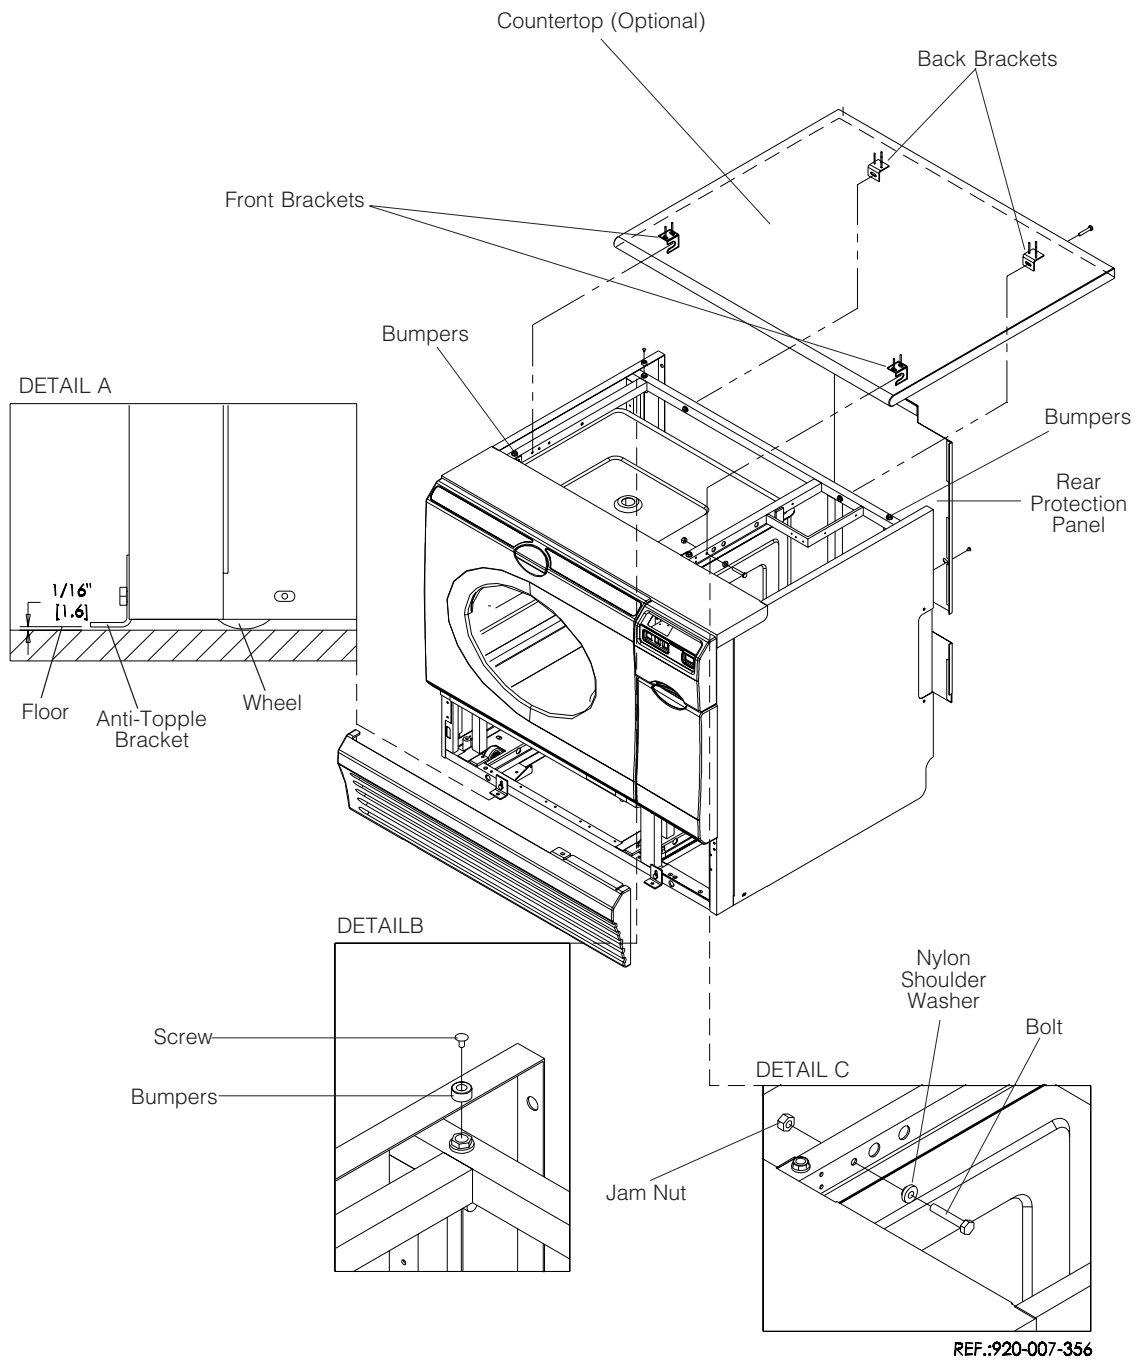

Figure 3-9. Countertop (Optional)
3. Install four rubber bumpers on top of frame using 6-32 x 1/4" screws (see Figure 3-9).
15. Install two anti-topple brackets in front of the washer (see Figure 3-9). Install the anti-topple brackets 1/16" (2 mm) from the floor.